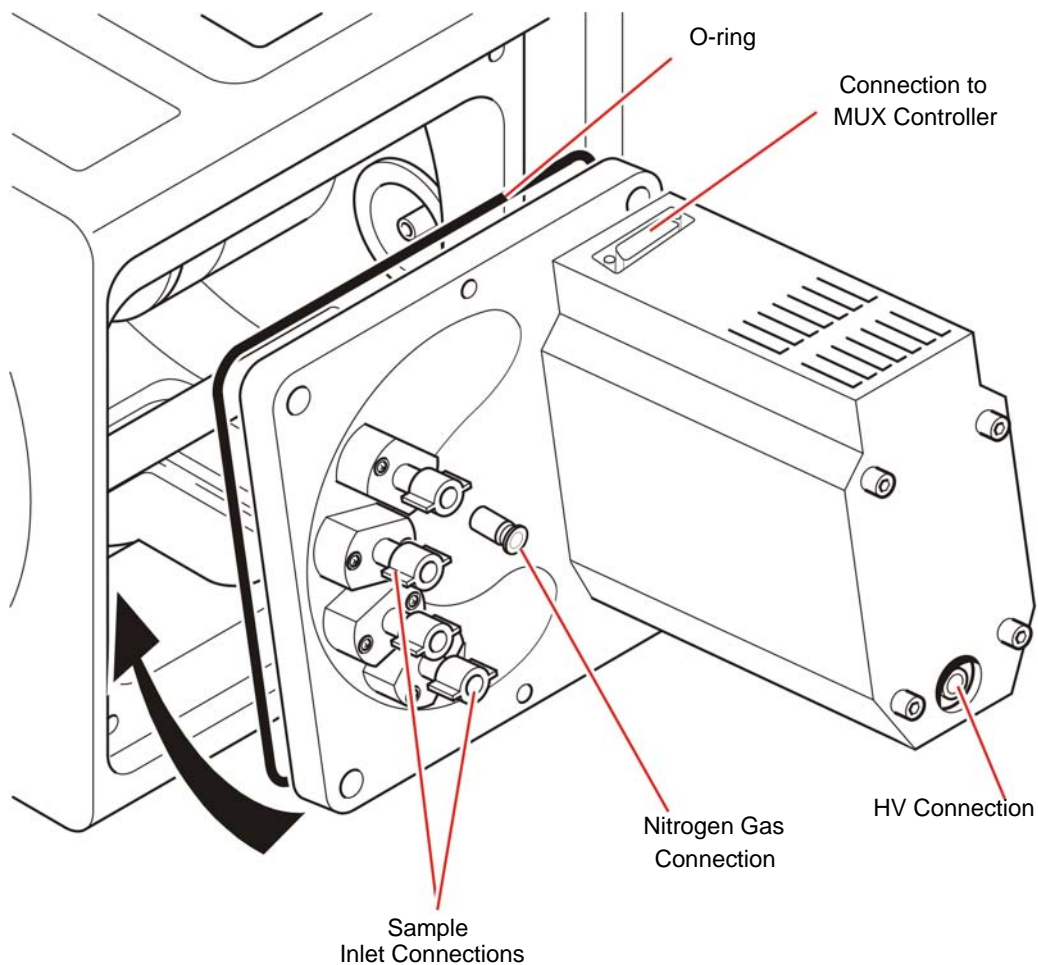

Figure 7-5 Inserting the MUX Flange
4. Insert the MUX flange into the side of the MUX enclosure (Figure 7-5).